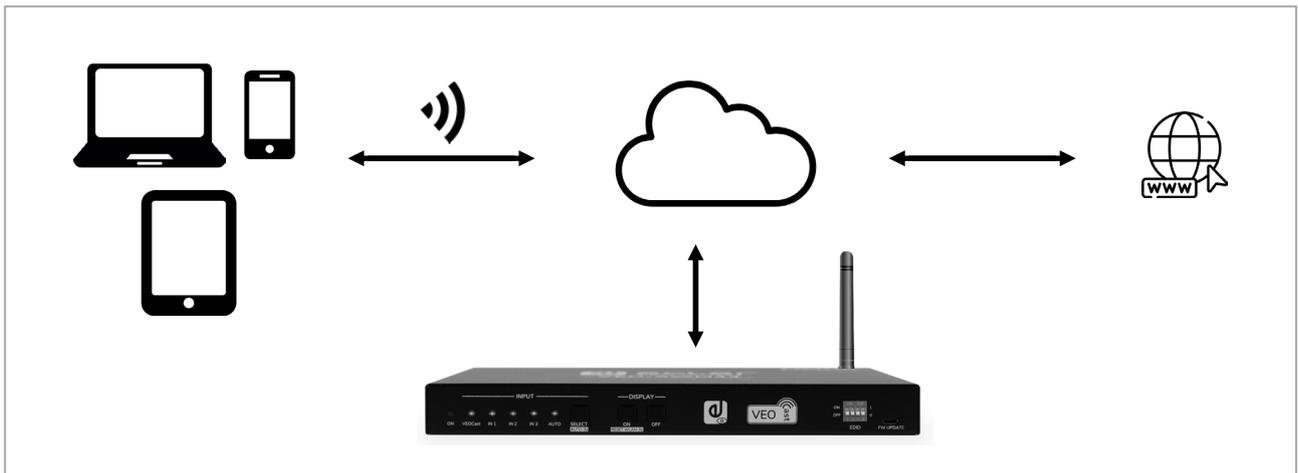

Figure 7
- **Connect the source device and VEO-SWM44 to the same network:** in this scenario, if both the source device and VEO-SWM44 are connected to the same network, the source device will be able share content with VEO-SWM44 wirelessly and browse the internet in case that this network has access to it (Figure 7).